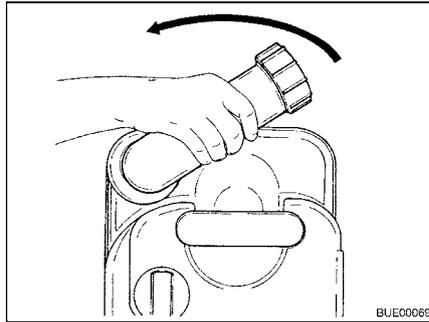

Fig. 289 Turning drainage neck
- Turn the drainage neck upwards (Fig. 289).